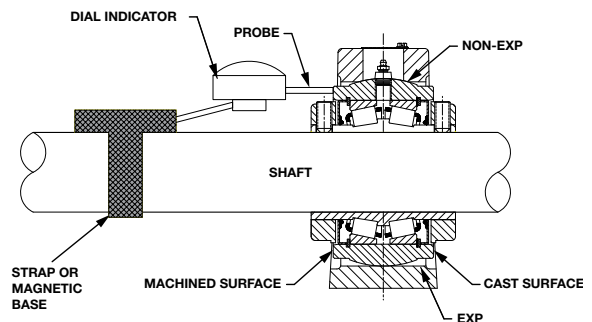

Figure 1 - Mounting Diagram
- Mount a dial indicator on the shaft near the non-expansion (fixed) bearing. Place the indicator probe so that it contacts the machined surface of the S-1 Unit Housing perpendicular to that surface. See Figure 1. Note that only one face of the S-1 Unit is a machined face.